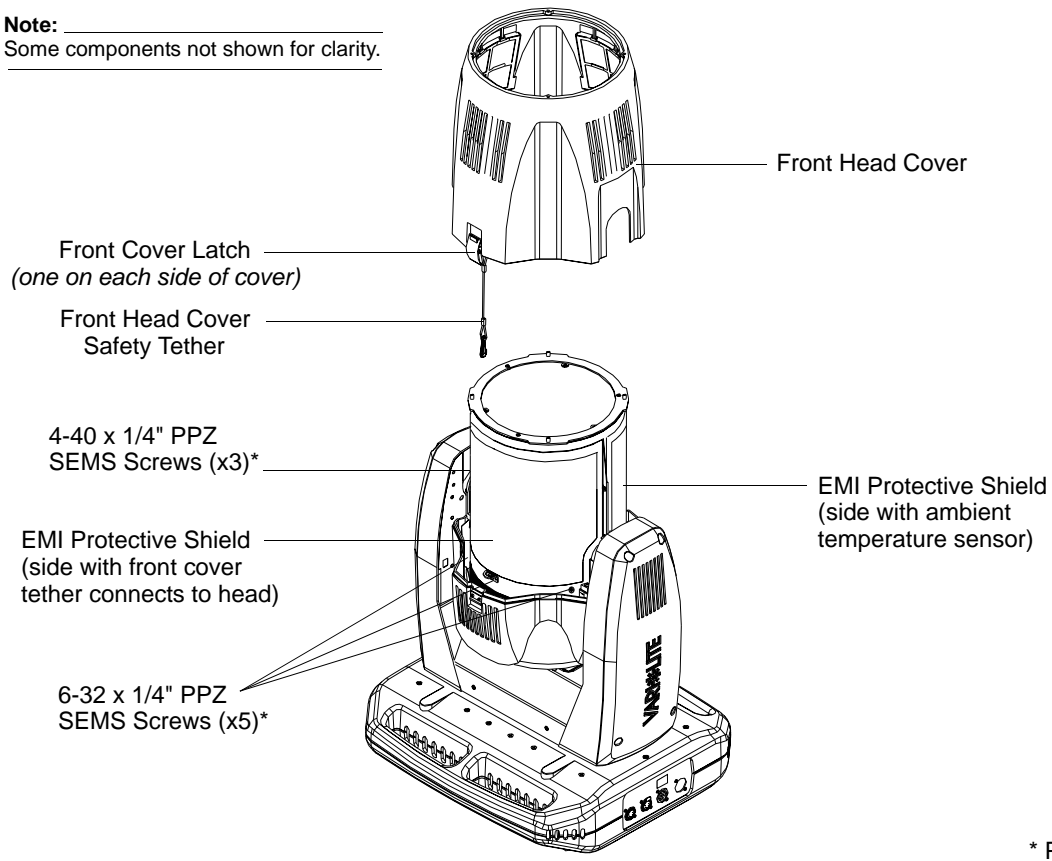

Figure 2-2: Front Head Cover and EMI Shields Removal
Step 5. Remove protective EMI shields from around optics assembly as shown in Figure 2-2 as follows: